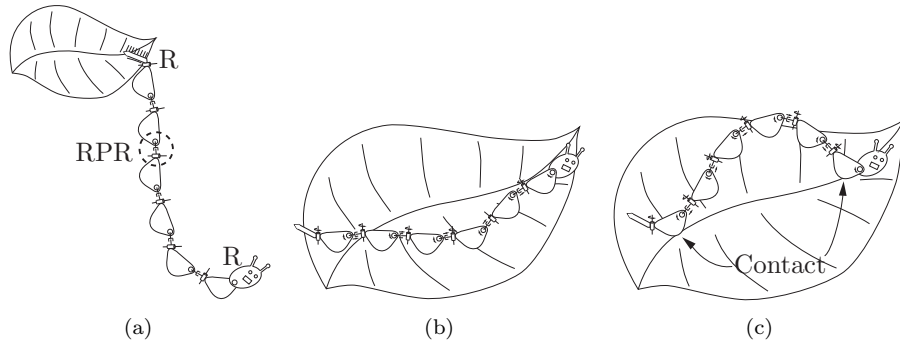

Figure 2.30: A caterpillar robot.
- (a) A caterpillar robot is hanging by its tail end as shown in Figure 2.30(a). The robot consists of eight serially connected rigid links (one head, one tail, and six body links). The six body links are connected by revolute-prismatic-revolute joints, while the head and tail are connected to the body by revolute joints. Find the number of degrees of freedom of this robot.
- (b) The caterpillar robot is now crawling on a leaf as shown in Figure 2.30(b). Suppose that all six body links must make contact with the leaf at all times but the links can slide and rotate on the leaf. Find the number of
- (c) Now suppose the caterpillar robot crawls on the leaf as shown in Figure 2.30(c), with only the first and last body links in contact with the leaf. Find the number of degrees of freedom of this robot during crawling.